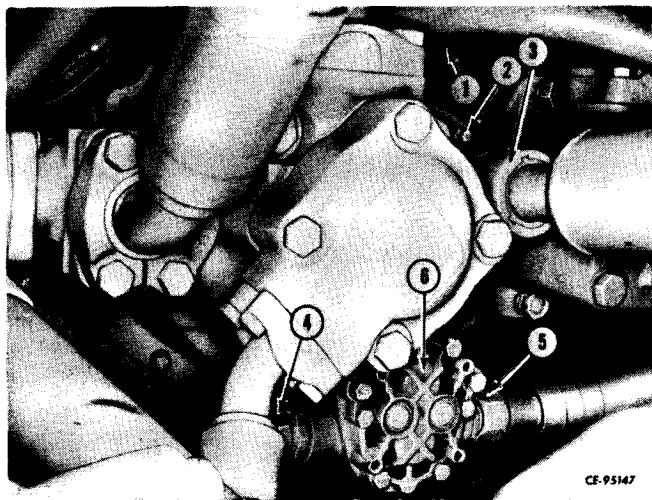

Figure 2-21
Connect electrical lead (1, Fig. 2-21) to converter temperature sender. Install and tighten cap screws and nuts (2) that secure drive shaft (3) to torque converter. Install and tighten hydraulic lines (4, 5) to transmission charging pump (6).